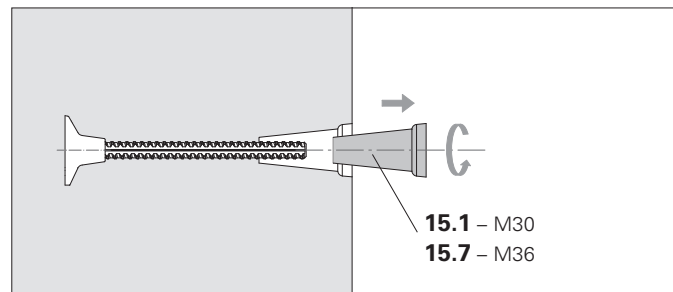

Fig. A2.16a
2. Unscrew the Climbing Cone by hand and remove. (Fig. A2.16a)